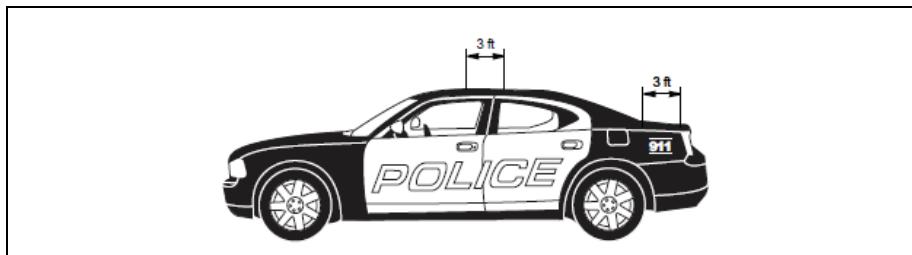

Figure 3: Multiple Antenna Separation
- Ensure that any transmitting radio antennas on this vehicle are separated from each other by at least 3 feet (92 cm). See Figure 3.